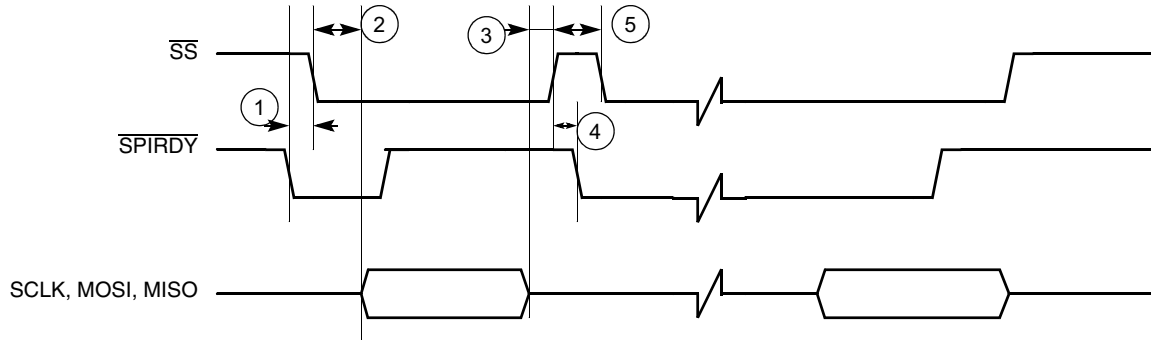
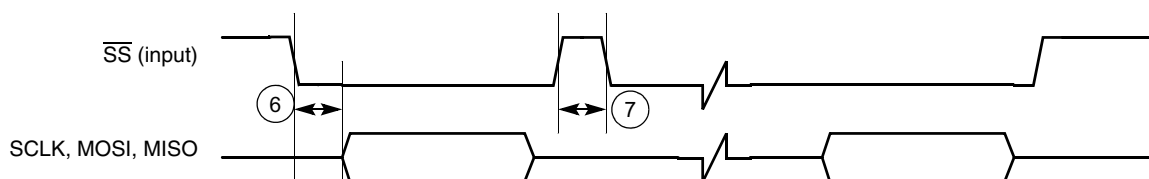

Figure 31. Master SPI Timing Diagram Using  $\overline{SPI\_RDY}$  Edge Trigger
Figure 35. Slave SPI Timing Diagram FIFO Advanced by  $\overline{SS}$  Rising Edge
To utilize the internal transmit (TX) and receive (RX) data FIFOs when the SPI 1 module is configured as a master, two control signals are used for data transfer rate control: the  $\overline{SS}$  signal (output) and the  $\overline{SPI\_RDY}$  signal (input). The SPI 1 Sample Period Control Register (PERIODREG1) and the SPI 2 Sample Period Control Register (PERIODREG2) can also be programmed to a fixed data transfer rate for either SPI 1 or SPI 2. When the SPI 1 module is configured as a slave, the user can configure the SPI 1 Control Register (CONTROLREG1) to match the external SPI master's timing. In this configuration,  $\overline{SS}$  becomes an input signal, and is used to latch data into or load data out to the internal data shift registers, as well as to increment the data FIFO. Figure 31 through Figure 35 show the timing relationship of the master SPI using different triggering mechanisms.
Table 15. Timing Parameter Table for Figure 31 through Figure 35